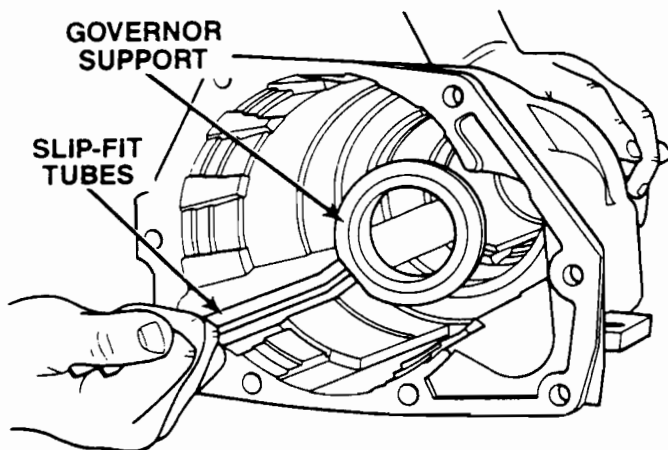
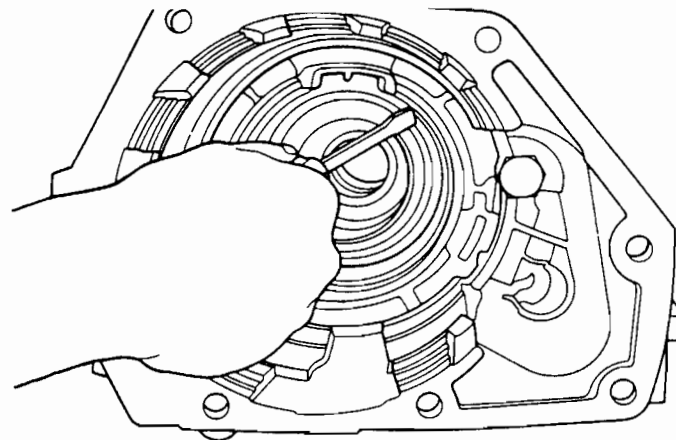

FIGURE 42
FIGURE 43
10. Then install the governor support (Figure 42) and secure it with its snap ring into the overdrive housing (Figure 43).